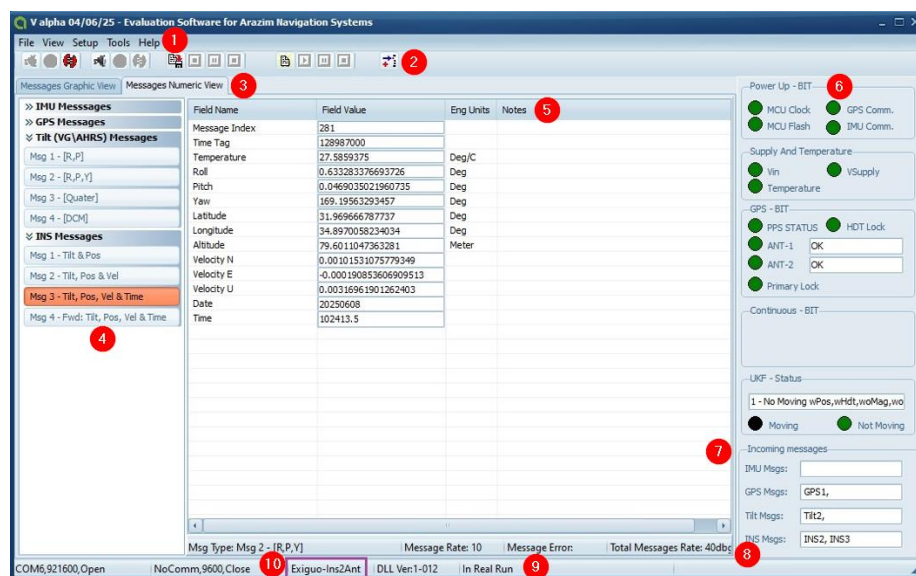

Figure 2. arazim Navigation Evaluation Software Home Screen
Table 1 lists the area names and functions in the arazim navigation evaluation software home screen. Figure 2 shows the location of each area referred to in Table 1.
1. The left portion of this view shows a list of messages available for a selected Navigation device (Figure 2, Reference 4)
2. The main portion of this view (Figure 2, Reference 5) shows:
- a. **Message Rate:** the number of times a selected message was received per second (Figure 2, Reference 4)
- b. **Message Error:** the number of times an error message was received per second (Figure 2, Reference 5)
- c. **Total Messages Rate:** the total number of user and system messages received per second (Figure 2, Reference 6).
The platform name (Figure 2, Reference 10) can be valid for Exiguo (EX300), ExiguoLP (EXLP300), and gINS (gX300), which all use the INS Dual Antenna algorithm.
5. The right portion of this view shows a panel with all BIT indicator information (Figure 2, Reference 6). These indicators are arranged in user-friendly groups